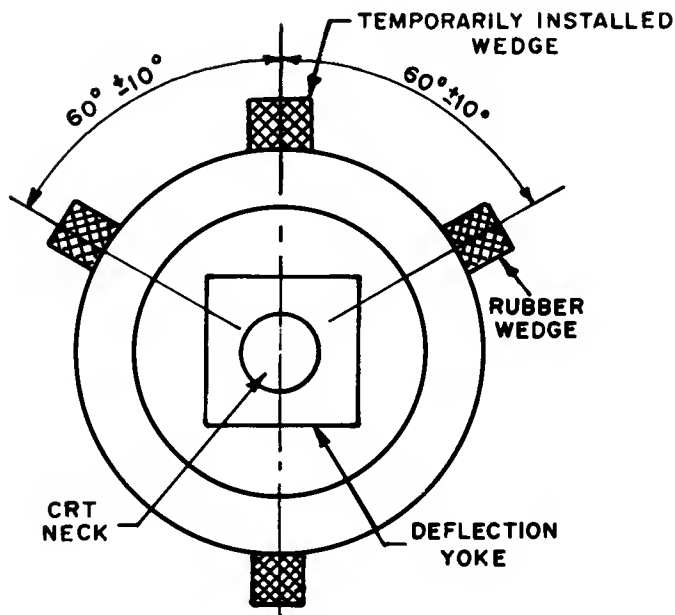

Figure 7
- 4.2 Temporarily insert a rubber wedge as shown in Figure 7.
- 4.5 After you have positioned the yoke, insert three more rubber wedges in the positions shown in Figure 7. Do NOT force the permanent wedges in: insert the wedges until they just make contact with the yoke.